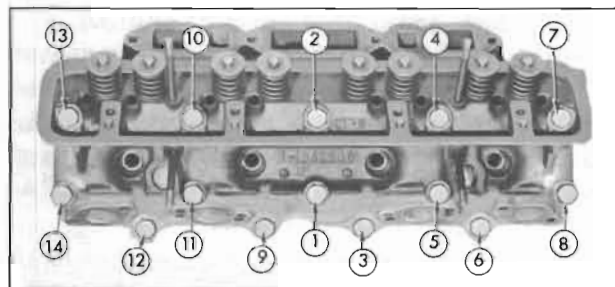

Figure 2-21—Cylinder Head Bolt Tightening Sequence
(3) After installation of cylinder head, tighten all bolts a little at a time about three times around in sequence shown in figure 2-21, then finally tighten in same sequence to 65-75 ft. lbs. torque.